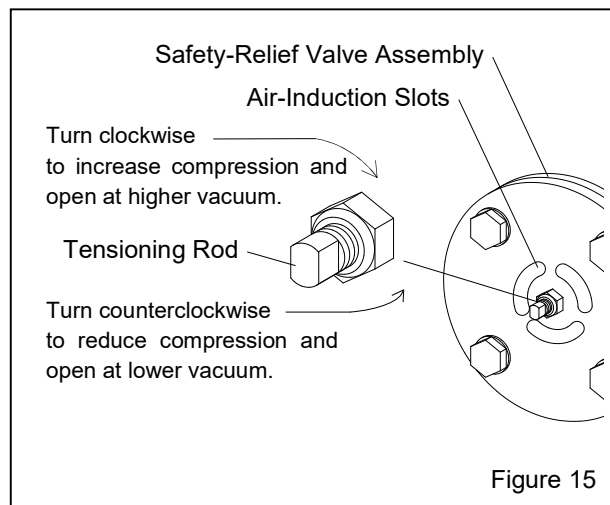

Figure 15
7.4 Adjusting the Vacuum Safety-Relief Valve Figure 15
7.4.2 Open the motor-compartment door but do not remove the guard. The safety-relief valve, as shown in Figure 15, is located inside the motor compartment on the inlet side of the vacuum pump.
7.4.4 If negative pressure exceeds -0.5 bar / 14.5" Hg when the inlet is totally blocked, turn the tensioning rod with a wrench one full-turn counterclockwise to open the valve at lower vacuum, as shown in Figure 15.
7.4.5 *If negative pressure stays at or below -0.4 bar/13" Hq when the inlet is totally blocked, turn the tensioning rod with a wrench one full-turn clockwise to open the valve at higher vacuum, as shown in Figure 15.*